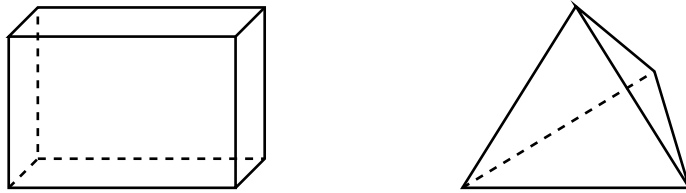

Figure 3.2: 3D allowed elements
- hexahedral or tetrahedral undeformed meshing for 3D cases (Figure 3.2).